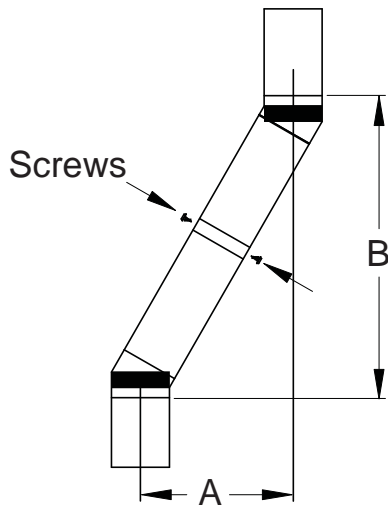

Figure 9 - Elbow Offset
securely engage the hem on the fireplace starter. The wire will assure the proper spacing between the inner and outer pipe sections. Continue to assemble chimney sections as outlined, making sure that both the inner and outer pipe sections are locked together. When installing double wall snap-lock chimney together, it is important to assure the joint between the chimney sections is locked. Check by pulling chimney upward after locking. The chimney will not come apart if properly locked. It is not necessary to add screws to keep the chimney together (exception - see Figure 9, page 9).
4. All pipe connections between offset and return must be secured with two screws on outer pipe only (see Figure 9, page 9). Do not penetrate inner stainless.